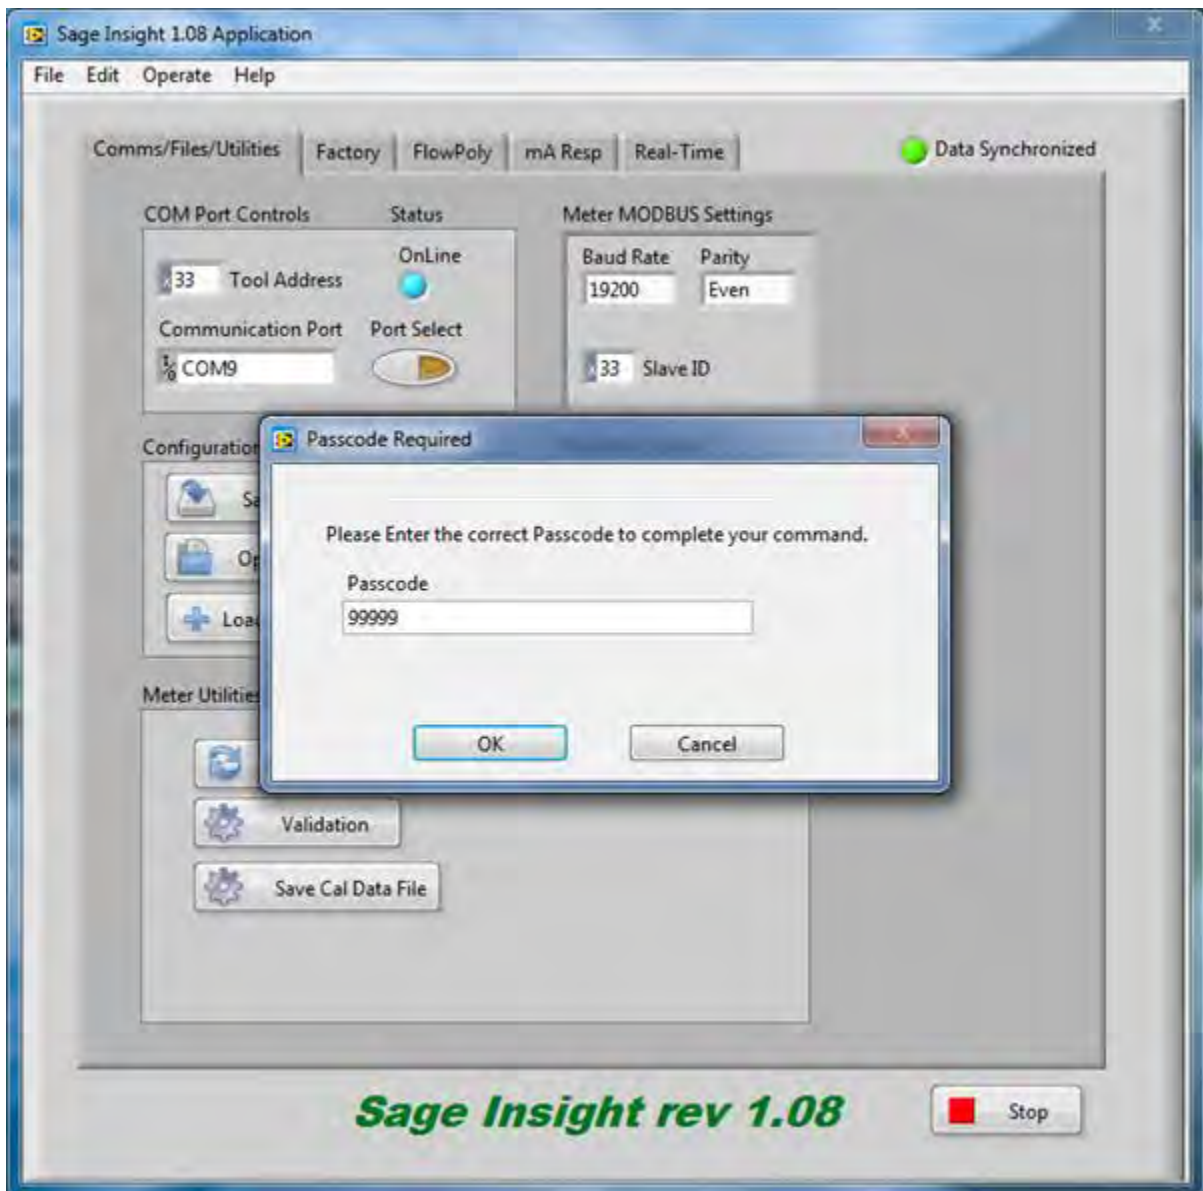

Figure 10
2. Enter this passcode; 99999 and click OK. See Figure 10.